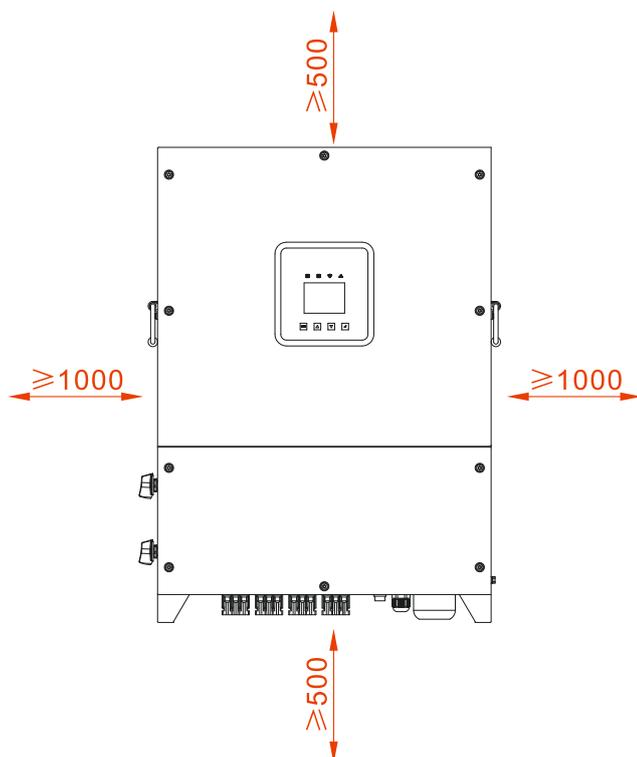
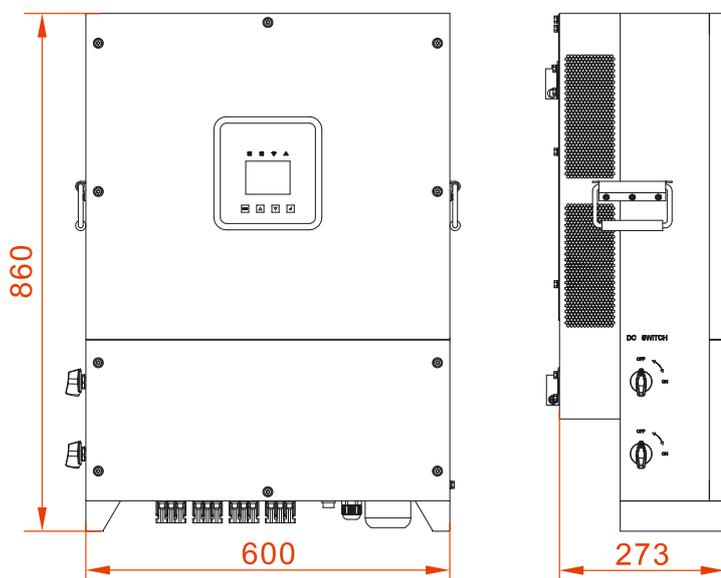

Figure3-2 Installation clearance
Figure3-4 The dimensions of inverter (Unit: mm)
Keep a clearance of at least 1000mm from the left side and right side of inverter to other objects, at least 500mm from the top of inverter to ceiling and at least 500mm from the bottom of inverter to ground, which is good for heat dissipation or maintenance, as shown in Figure3-2.
- Step 1 Determine the installation site according to the dimensions of inverter(as shown in Figure3-4) and installation clearance requirements(as shown in Figure3-2).